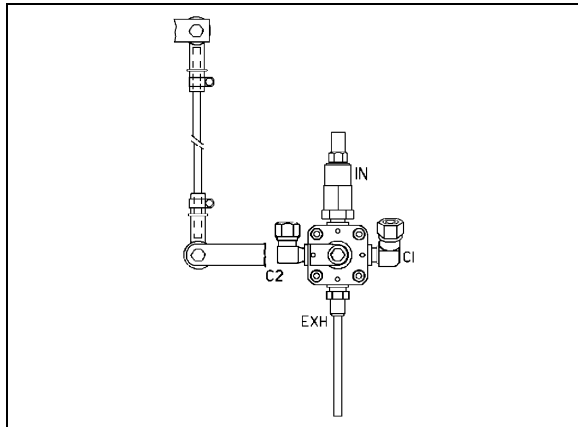

FIGURE 39: FRONT HEIGHT CONTROL VALVE 16100
2. Loosen the clamp on the height control valve rubber coupling and bring it up or down (Fig. 39).